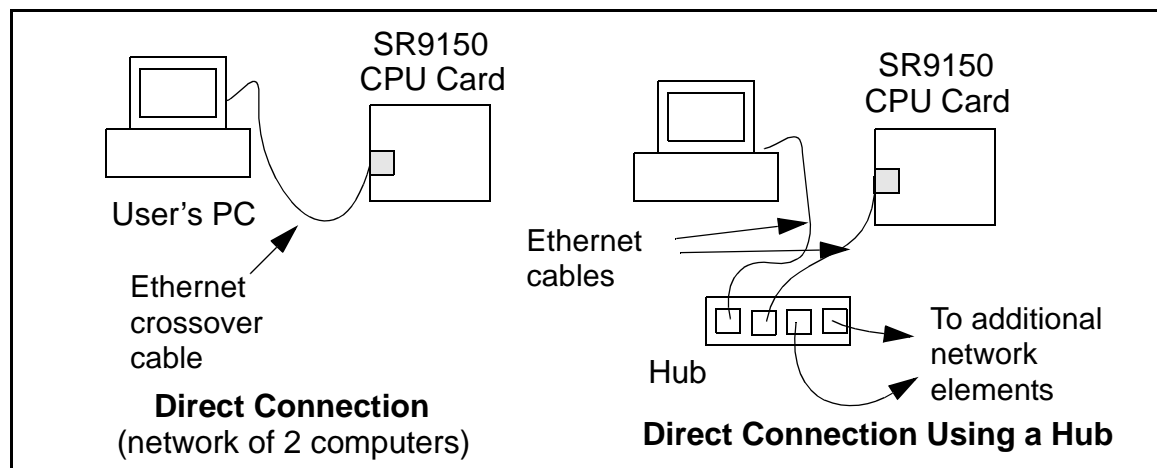

Figure 18. Ethernet Connections
- If you have an Ethernet connection, use a straight-through Ethernet cable to establish an Ethernet connection to the installed CPU Card from an Ethernet hub. These connections are shown in Figure 18.